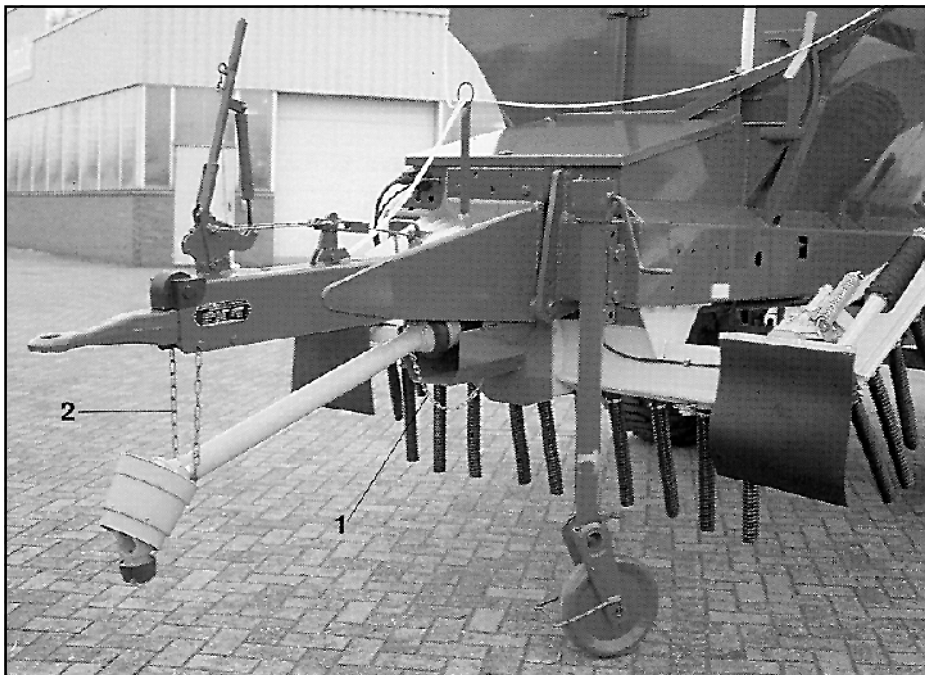

Fig. 4.14
4. The guard tubes for the p.t.o. shaft have chains (fig. 4.14/1) that are to be attached to the tractor and the ZG-B. These chains prevent the guard tubes from spinning with the p.t.o. shaft. Attach the chains to the holes provided so that the p.t.o. shaft still has sufficient room for movement in all operational positions and so that the guard tube does not spin when the shaft is in operation.